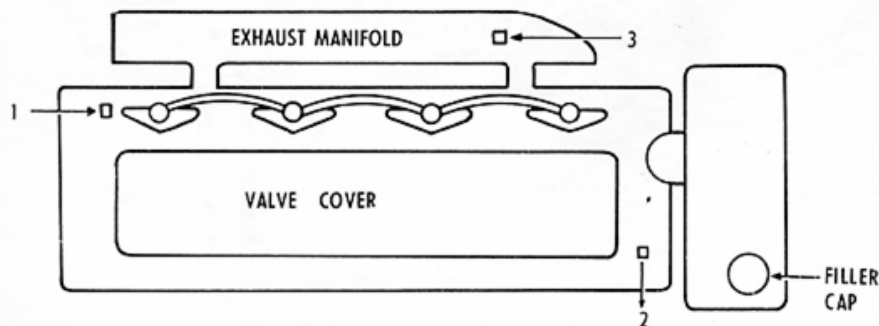

Fig. F.1.
1. Remove the square headed plugs in the top faces of the cylinder head and exhaust manifold marked 1, 2 and 3 in Fig. F.1 and add water steadily to the cooling system header tank.